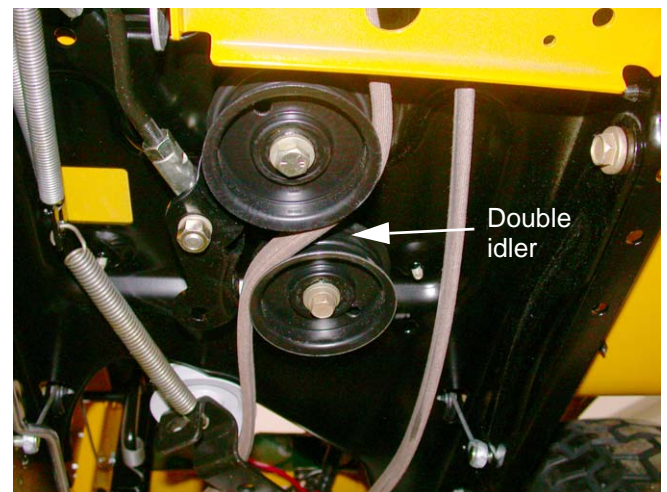

Figure 17.9
- 17.9. Locate the double idler pulley bracket beneath the tractor. See Figure 17.9.